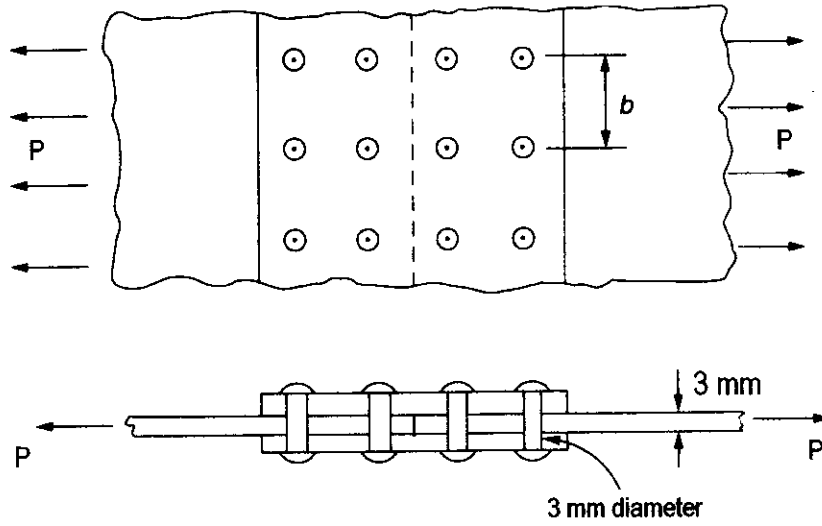

FIGURE Q2
- (b) **FIGURE Q2** shows a section of the fuselage skin where two plates of 3 mm thick are connected by a double riveted joint. The rivets have a diameter of 3 mm. It is known that the failure strength of the rivet in shear and the ultimate tensile strength of the plate are 360 N/mm^2 and 450 N/mm^2 respectively. Calculate the rivet spacing if the joint is designed so that failure due to shear in rivet and failure due to tension in plate will occur simultaneously. (15 marks)